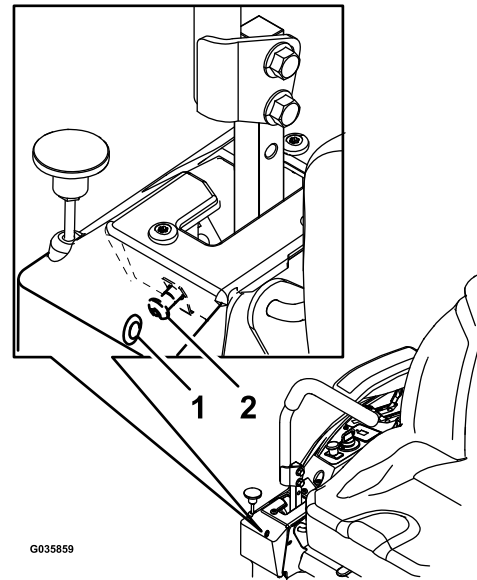

Figure 58
6. If the machine tracks to the right, insert a 3/16 inch hex wrench through the access hole in the right front cover panel and rotate the tracking screw clockwise or counterclockwise to adjust the travel of the lever (**Figure 58**).
7. If the machine tracks to the left, insert a 3/16 inch hex wrench through the access hole in the right front cover panel and rotate the tracking screw clockwise or counterclockwise to adjust the travel of the lever (**Figure 58**).